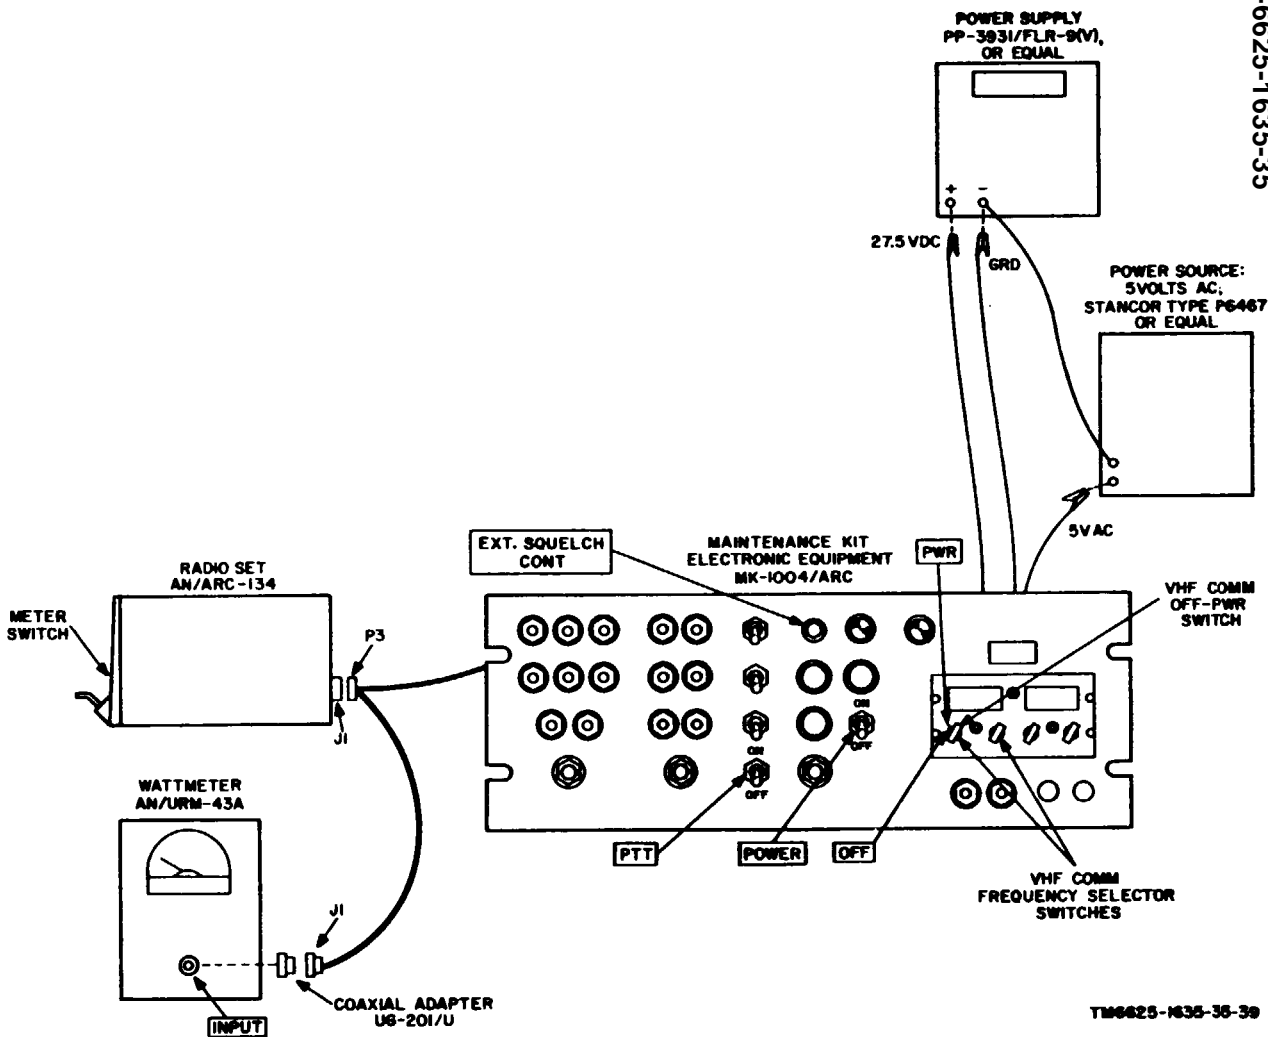

Figure 4-3. Transmitter output and control circuit check. test setup, unmodified maintenance kit.
- (1) Radio Set AN/ARC-134.
- (2) Ac power source (unmodified equipment)
- (3) Ac power source.
- (4) Wattmeter, Radio Frequency AN/URM-43A.
(5) Adapter.
b. *Test Connections and Conditions.* Connect the equipment as shown in figure 4-3 or 4-3.1. On modified equipment, place the C-1611D/AIC PVT-INT switch in position 3, the RECEIVERS 3 switch ON, all other RECEIVERS switches off, and position the VOL control as required. These settings must be maintained during the test,